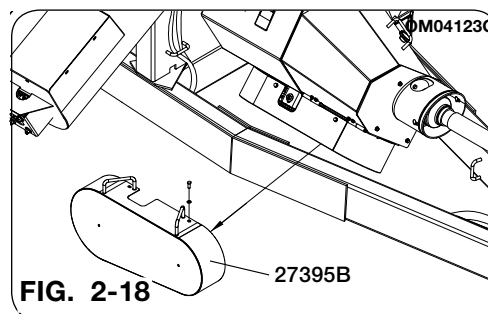

FIG. 2-18
2. Remove the 5/16"-18UNC x 1" capscrews (9390-030) and lock washers (9404-021) so the guard weldment (27395B) can be removed as shown in Fig. 2-18.